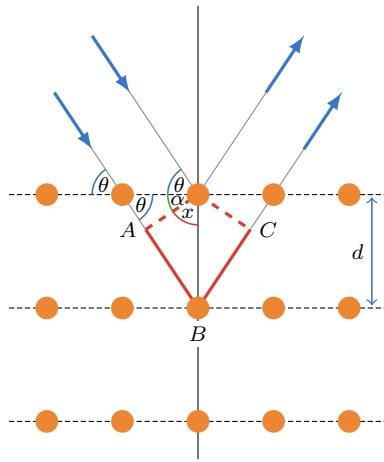

Figure 2.2: Bragg's Law derivation.
- Refer to Figure 2.2 throughout the following.